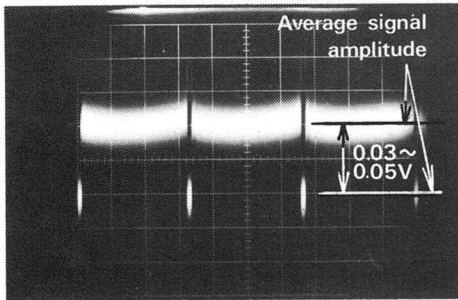

Fig 7.12
- (1) Cover the lens with the cap or close the iris control mechanism. Then, connect the probe provided with the oscilloscope to terminal TP-1 on the Video Process PCB (CA 1501A)
- (2) Adjust R10 **TARGET** volume on the Def and Power PCB (CA 4501A) until the voltage reading is between 0.03V and 0.05V, as shown in Figure 7.12.